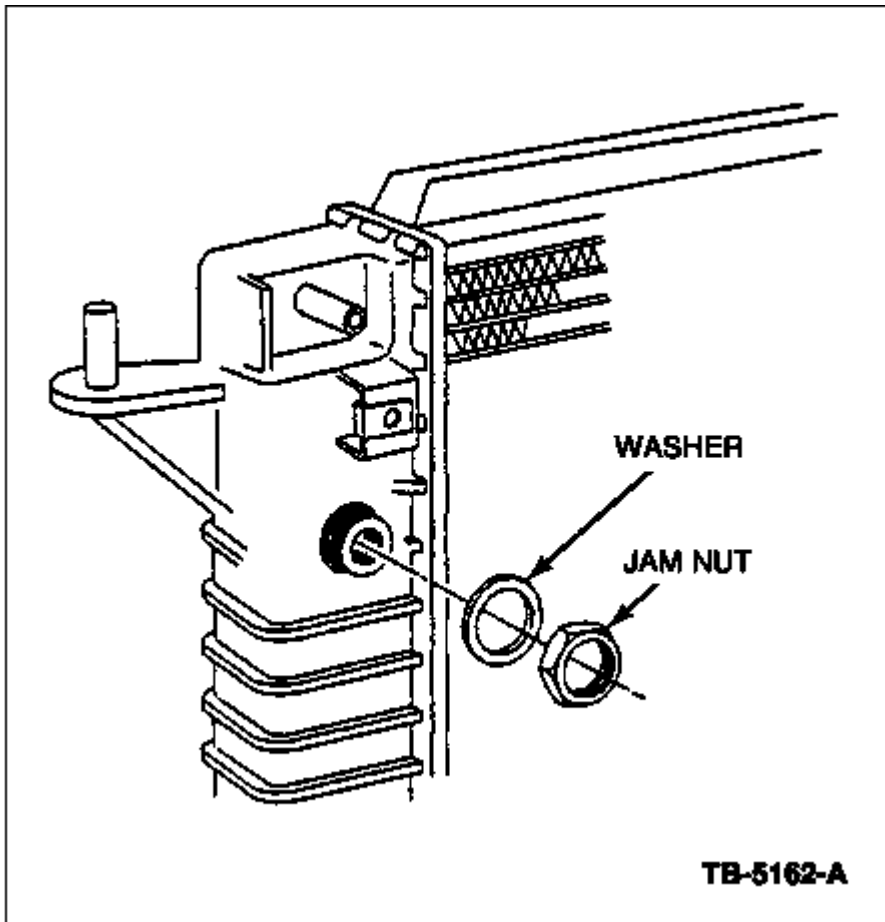

Figure 2 - Article 97-17-16
6. Remove the jam nut and washer (Figure 2).